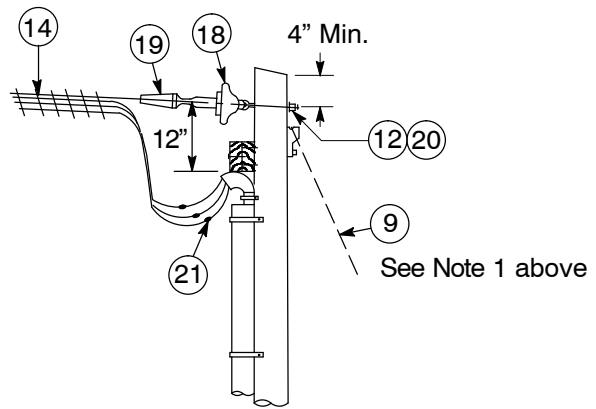

Figure 6
4. Figure 6, Page 8 installation is not allowed for new construction.